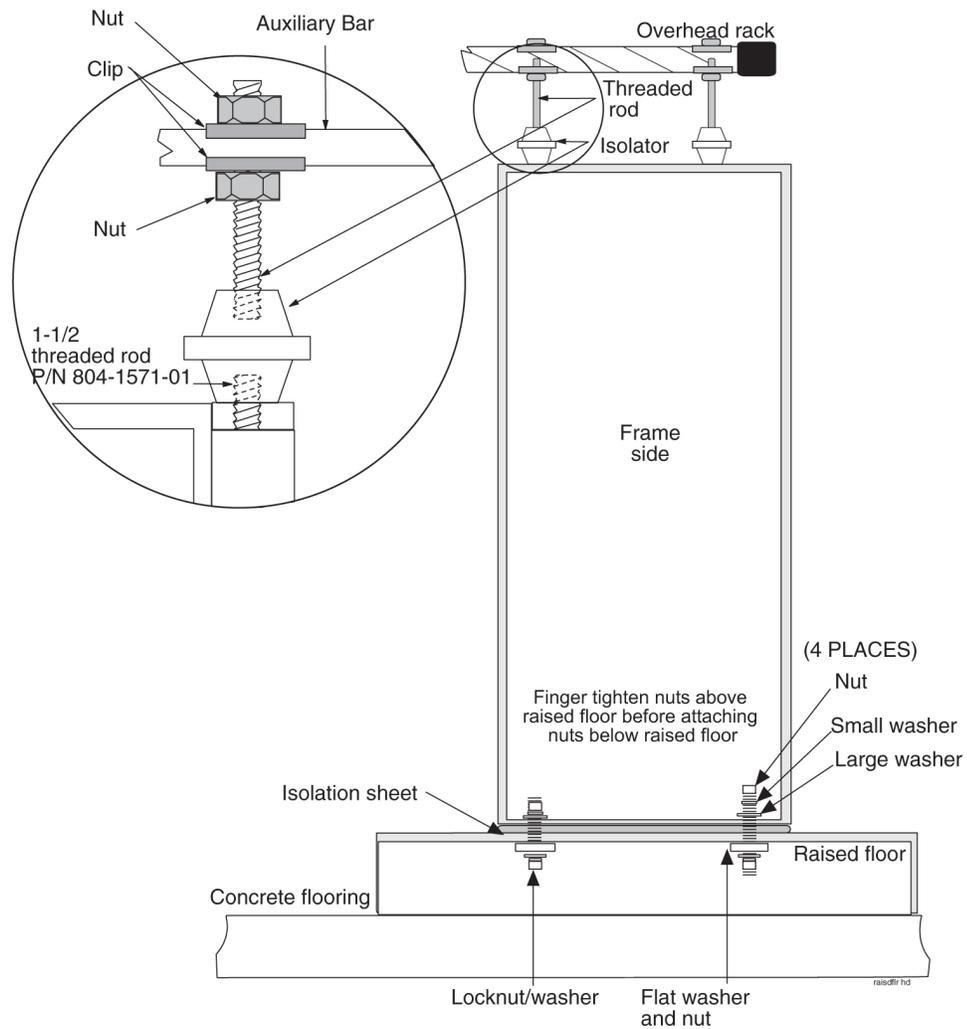

**Figure 17: Raised Floor Installation Elements**
3. Install a flat washer and nut onto the anchor assembly, as shown in Figure 17: Raised Floor Installation Elements.